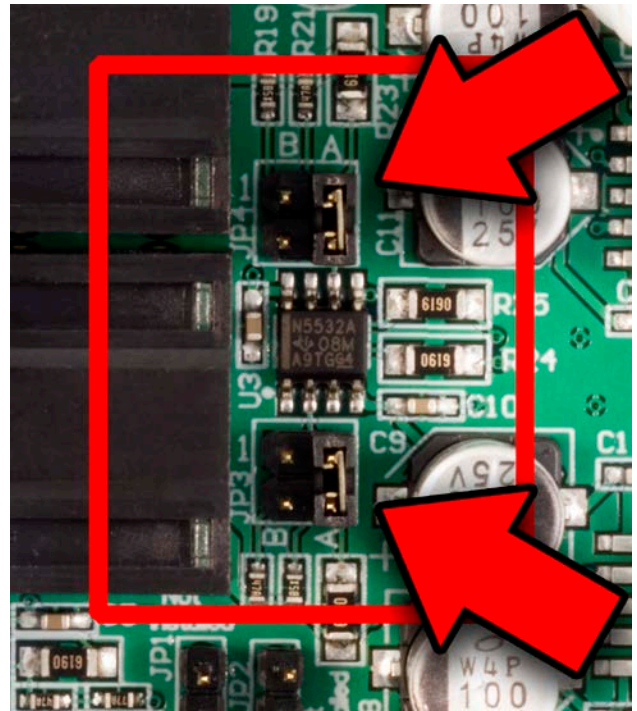

Figure 4 - 0 dB Headphone Attenuation
- **0 dB** attenuation - see **Figure 4**